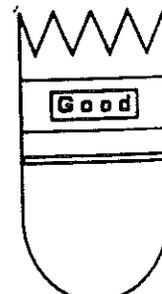

Fig. 5
7. A properly functioning pen will display GOOD. (see Fig. 5)